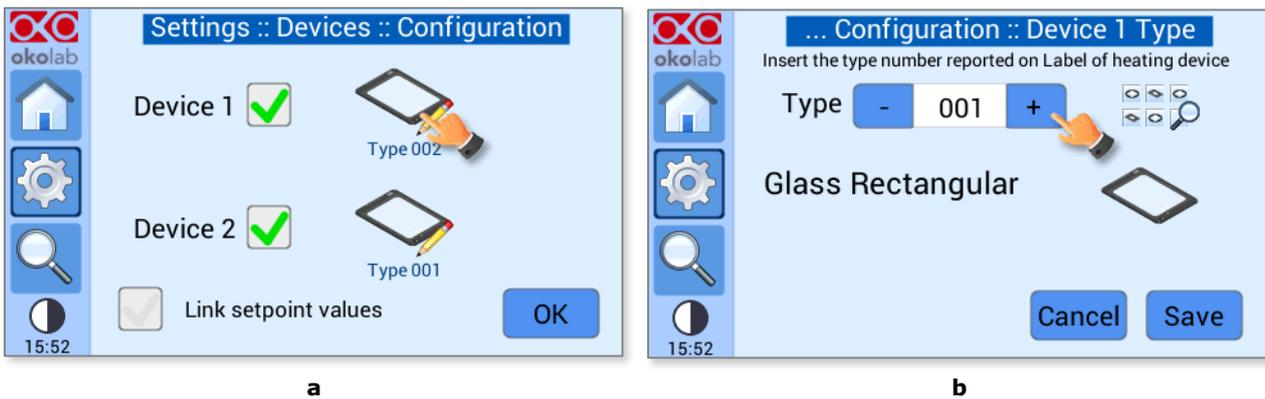
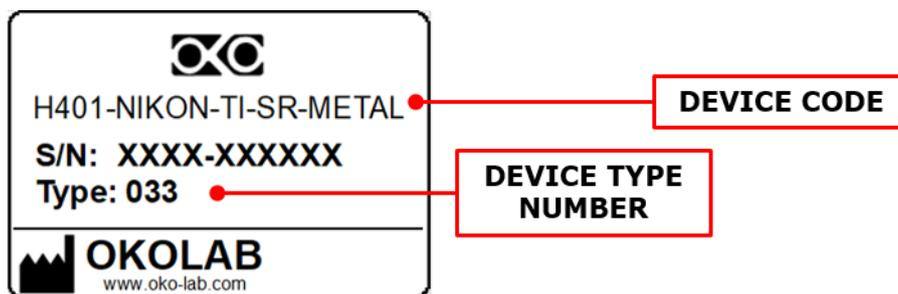

Figure 18. Device Type Configuration menu (a - b).
Figure 19. Heating device label.
- 2 Press on Device icon to choose the connected device type, see Figure 18 a. Select the type number of the device (see Figure 18 b). You can read the device type number on the label of the heating device (see Figure 19).